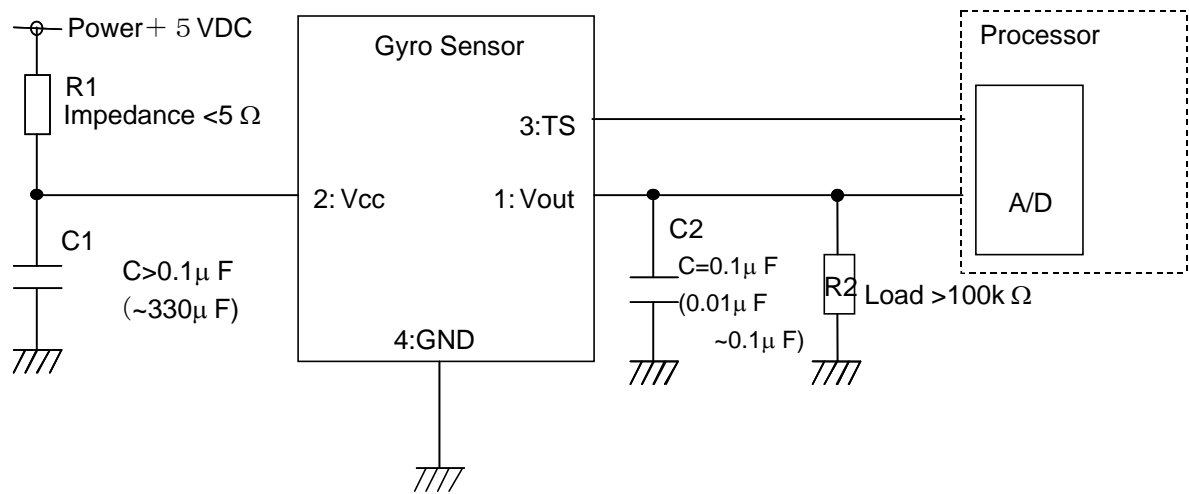

Fig.4 Standard usage of the angular rate sensor
This is a standard usage of this angular rate sensor. Recommended connecting circuit is shown in Fig.4. Note that
- Vcc(pin No.2) is connected to power supply through protection resistance(R1) and bypass capacitor (C1). Recommended value for R1 and C1 is shown in Fig.4.
- Vout(pin No.1) is connected to external device through bypass capacitor (C2) and load resistance (R2). Recommended value for R2 and C2 is shown in Fig.4. If you use A/D converter as an external device, please refer to section 4.3.